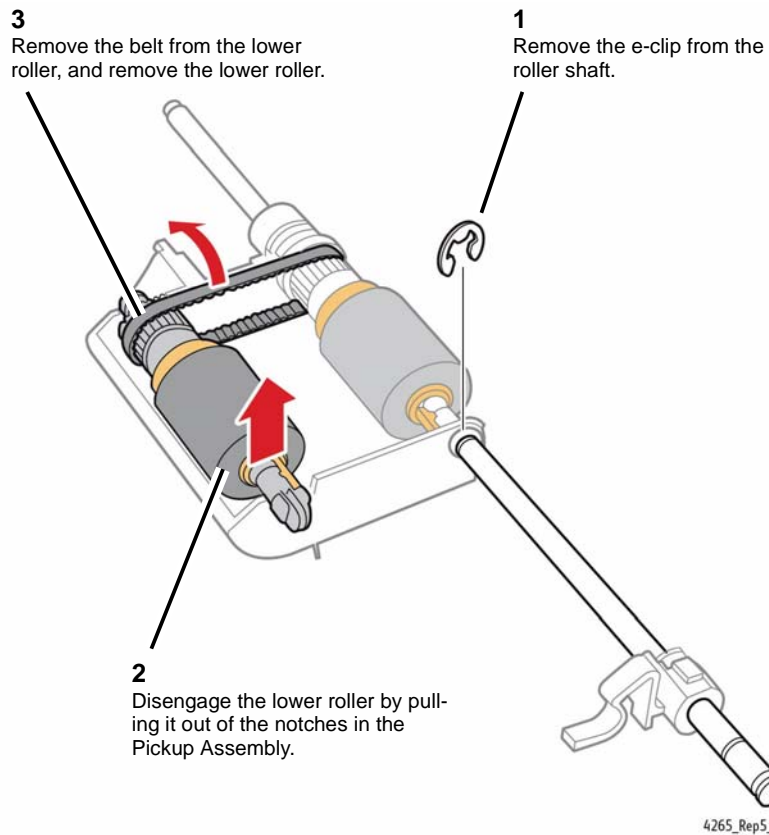

Figure 1 Removing the Lower Roller
3. Remove the lower roller (Figure 1).